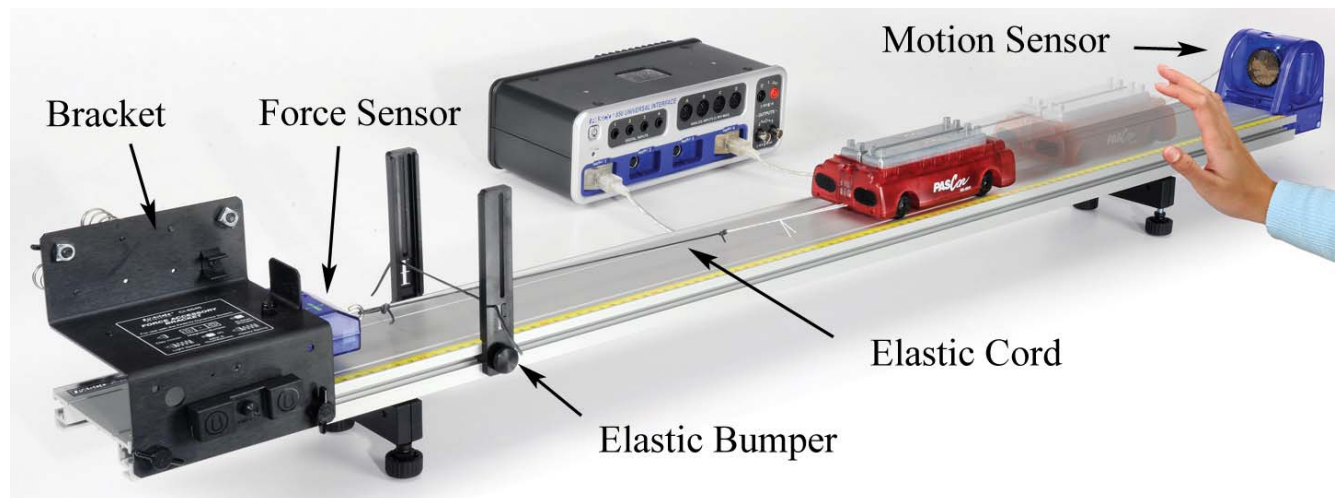

Figure 1: Complete Setup
1. Install the elastic bumper and adjustable feet to the track as shown in Figure 1. Attach the Force Sensor to the track using the force bracket. Plug the Force Sensor into the interface, and press the zero button to tare the sensor.